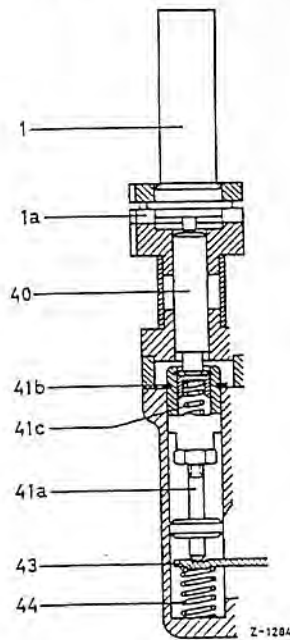

Fig. 07-10/16
Note: When the inlet air thermostat is defective, the compensators can be fixed in the position which corresponds to an inlet air temperature of 20° C by turning in the stop screw (62) as far as it will go (Fig. 07-10/15). The operation of the aneroid compensators is not affected by this.
In order to ensure that the thermostat does not make the mixture too lean when the external temperature is extremely high, the adjustment range is limited to 30—35° C on R 3, R 4, R 6 and R 7 Injection Pumps. A spring cup (44a) is installed to bring about this limitation (Fig. 07-10/17).